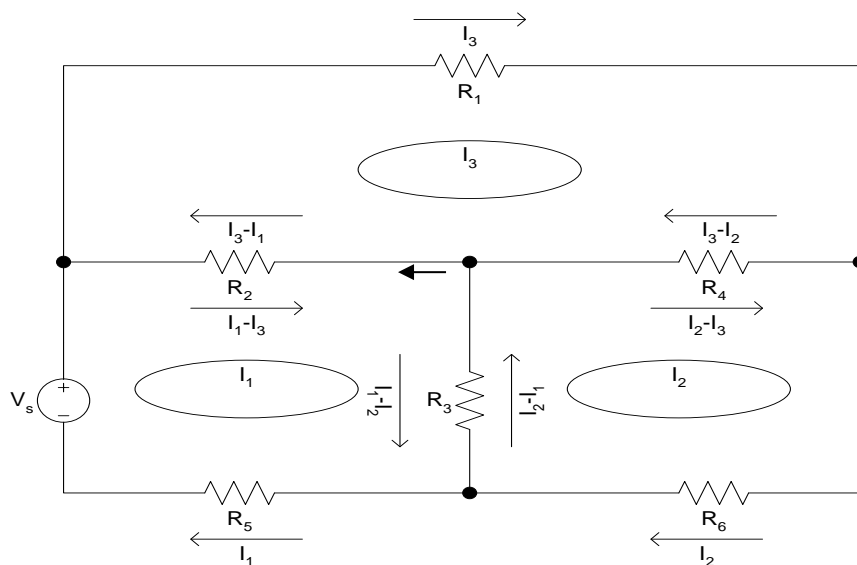

Figure 7.1: Illustration of mesh analysis
1. Measure six resistors and construct a circuit as shown in Fig. 7.1.